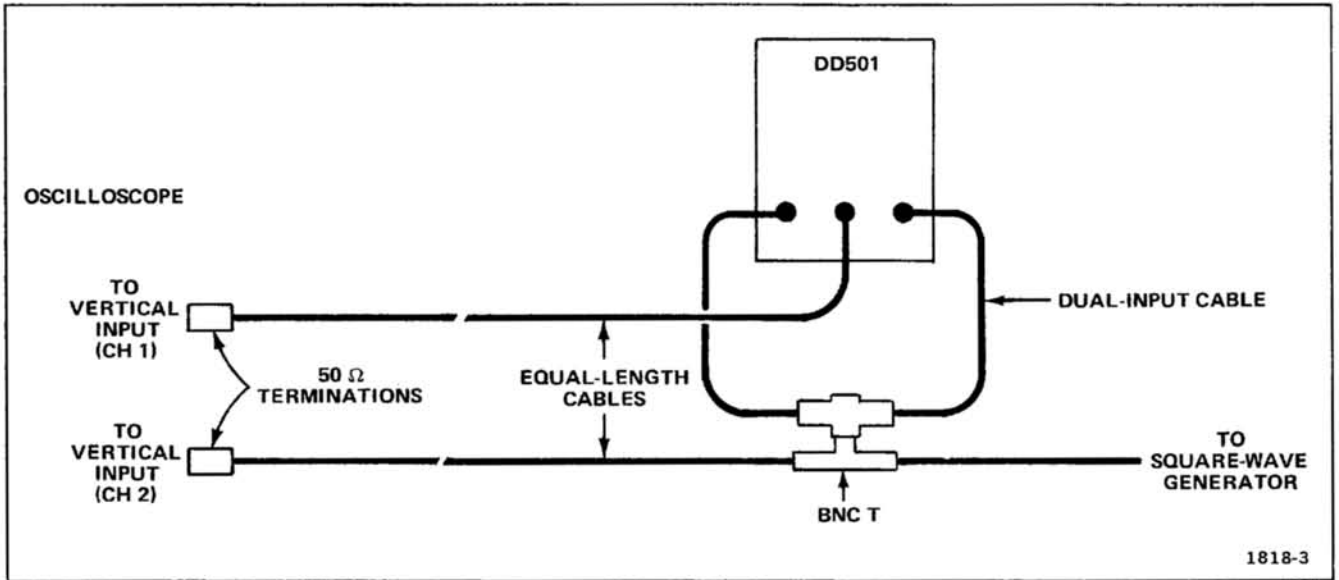

Fig. 5-1. Throughput time test setup.
a. Connect equipment as shown in Fig. 5-1.